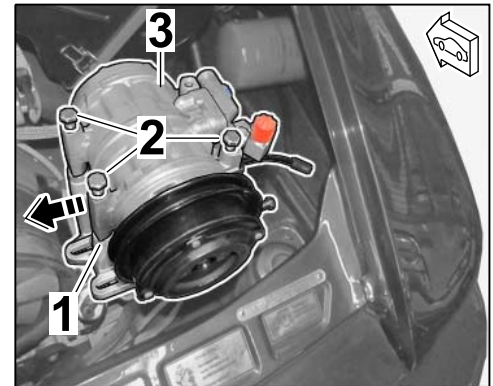

Figure 6
- 1.2.5 Push air-conditioning compressor plate with air-conditioning compressor as far as possible to the left and take the V-belt down off the pulley (⇒ *Figure 6*).
- 1.2.6 Remove hexagon-head bolt (3 x) on the compressor (⇒ *Figure 6*).